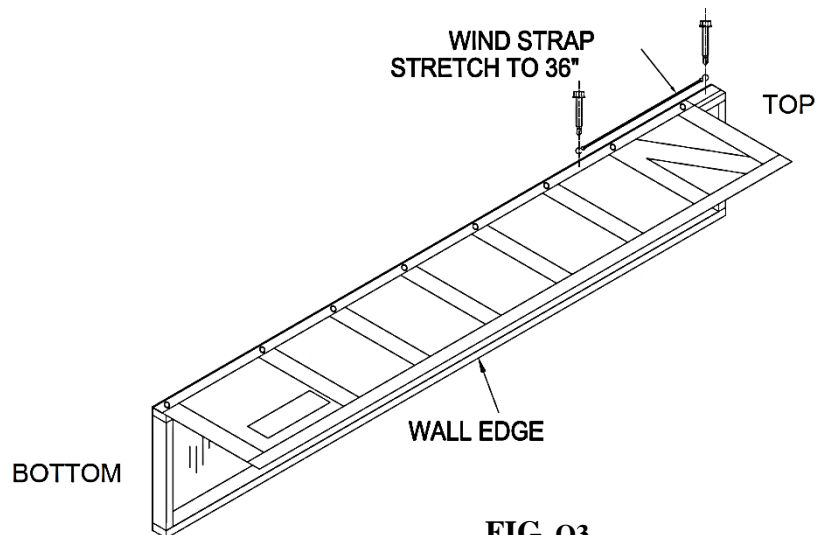

FIG. O3
- a. **Place Wind Strap "S" hook** at hole at top of Vertical Frame (Figure O3).